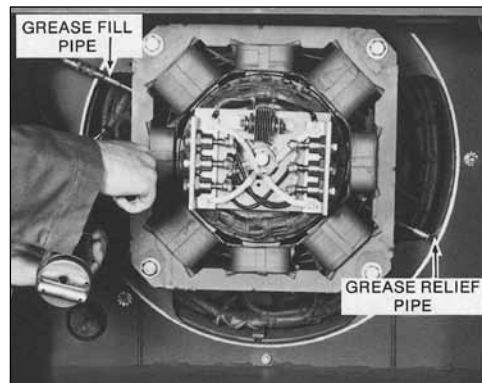

Figure 5-2
4. Remove fill and drain plugs. (Figure 5-2)